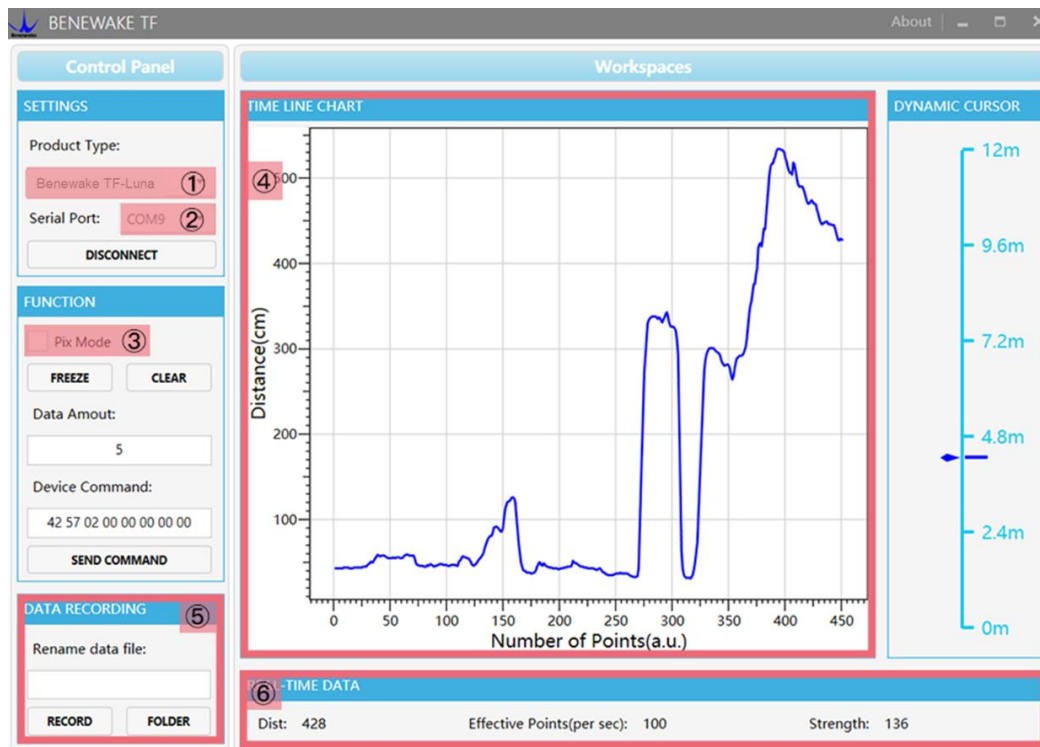

Figure 10 PC software Interface and Display
- ③ Open your test software and check data output
Open the PC software and select “①TF-Luna” and select automatically recognized occupied serial port (in this case “② COM9”) as shown in Figure 10.